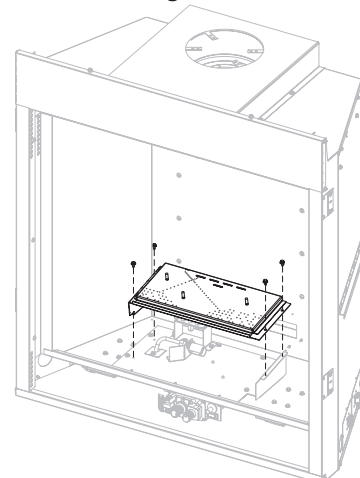

Figure 12
9. Remove the four screws securing burner and slide to right then lift burner off. See Figure 12.
18. Reinstall the burner and four screws removed in step 9. **See Figure 12.**